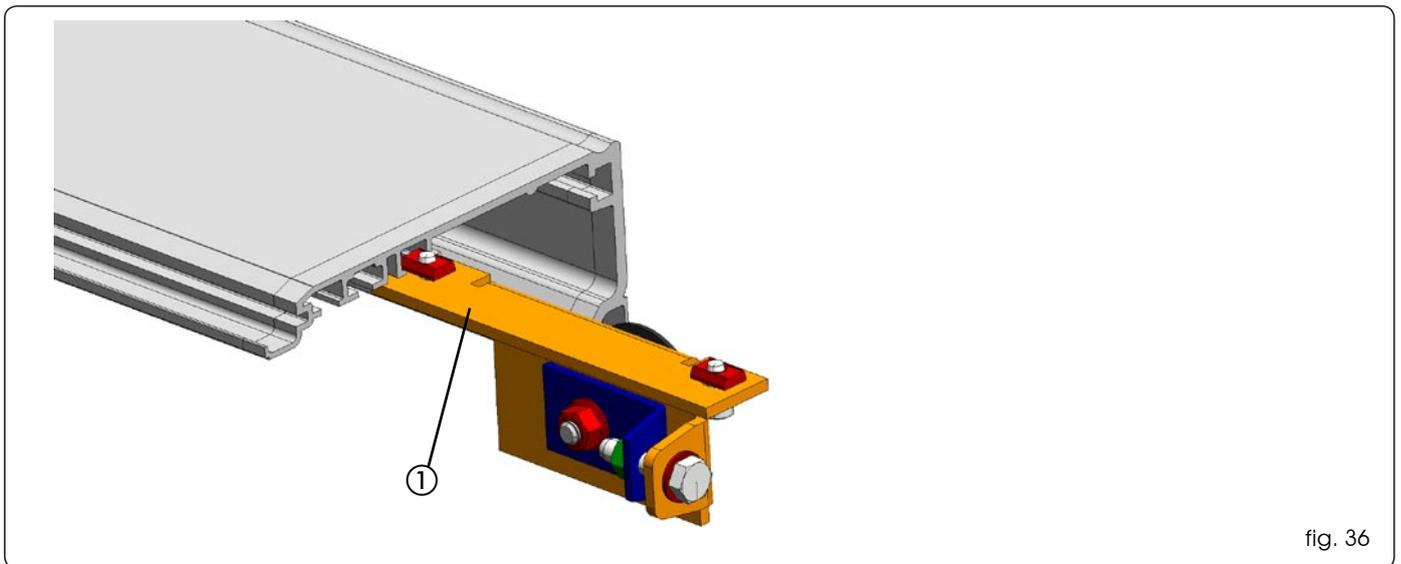

fig. 36
insert the transmission pulley unit fig.36 ref ①